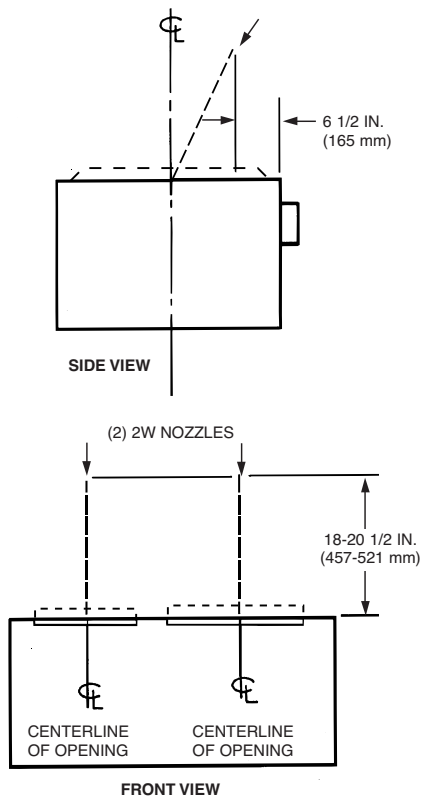

FIGURE 83
- **Nozzle Quantity/Type:** (2) Two 2W nozzles, Part No. 419337.
- **Nozzle Height:** 20 1/2 in. (521 mm) above top of appliance. See Figure 83.
- **Nozzle Location:** 6 1/2 in. (165 mm) back from front edge of appliance. See Figure 83.
- **Nozzle Aiming Point:** Aimed at center of each opening. See Figure 83.